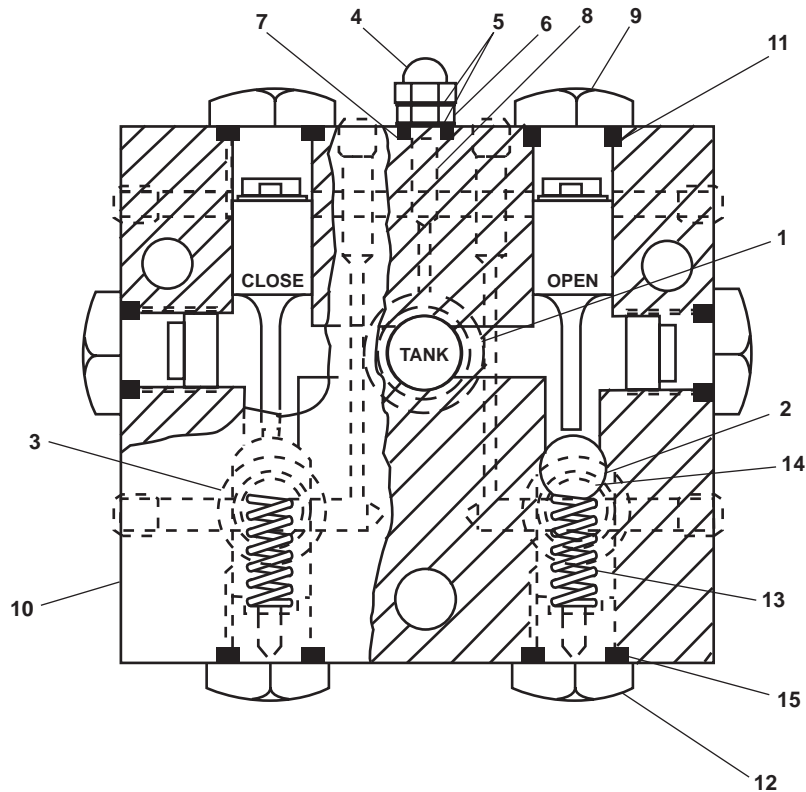

Figure 5. Shuttle Valve
2. Remove and discard the O-ring (figure 5, items 1, 2, and 3).
3. Remove the cap nut (figure 5, item 4) and O-ring (figure 5, item 5). Discard the O-ring.
4. Remove the jam nut (figure 5, item 6) and set aside. Remove and discard the O-ring (figure 5, item 5).
5. Remove and discard the O-ring (figure 5, item 7) from the needle valve (figure 5, item 8).
6. Remove the plug (figure 5, item 9) from the shuttle valve (figure 5, item 10) and set aside. Remove and discard the O-ring (figure 5, item 11).
7. Remove the plug (figure 5, item 12), spring (figure 5, item 13), and ball (figure 5, item 14) from the shuttle valve (figure 5, item 10).
8. Remove and discard the O-ring (figure 5, item 15).
1. Seat the ball (figure 5, item 14) and spring (figure 5, item 13) in the shuttle valve (figure 5, item 10).
2. Lubricate the O-ring (figure 5, item 15) with hydraulic fluid and install it on the plug (figure 5, item 12)
3. Install the plug (figure 5, item 12) in the shuttle valve (figure 5, item 10).
4. Lubricate the O-ring (figure 5, item 11) with hydraulic fluid and install it on the plug (figure 5, item 9).
5. Install the plug (figure 5, item 9) in the shuttle valve (figure 5, item 10).
6. Lubricate the O-ring (figure 5, item 7) with hydraulic fluid and install it on the needle valve (figure 5, item 8).
7. Install a new O-ring (figure 5, item 5) and the jam nut (figure 5, item 6) on the shuttle valve (figure 5, item 10).
8. Install a new O-ring (figure 5, item 5) and the cap nut (figure 5, item 4) on the shuttle valve (figure 5, item 10).
9. Lubricate the O-rings (figure 5, items 1, 2, and 3) with hydraulic fluid and install them on the shuttle valve (figure 5, item 10).